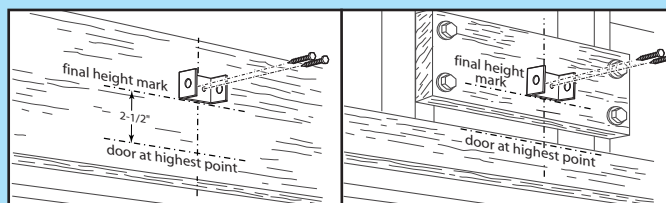

FIG. 2-3 Header bracket mounting (on header & above header).
**NOTE:** If header bracket location needs to be above header for garage door opening, you need to add a "mounting surface." A 2" x 6" board securely attached (board and fasteners not included) to wall studs on either side of your mark is sufficient (Fig. 2-3).
- Hold header bracket against wall (Fig. 2-3).
- Fasten header bracket with 2 lag screws (provided) (Fig. 2-3).